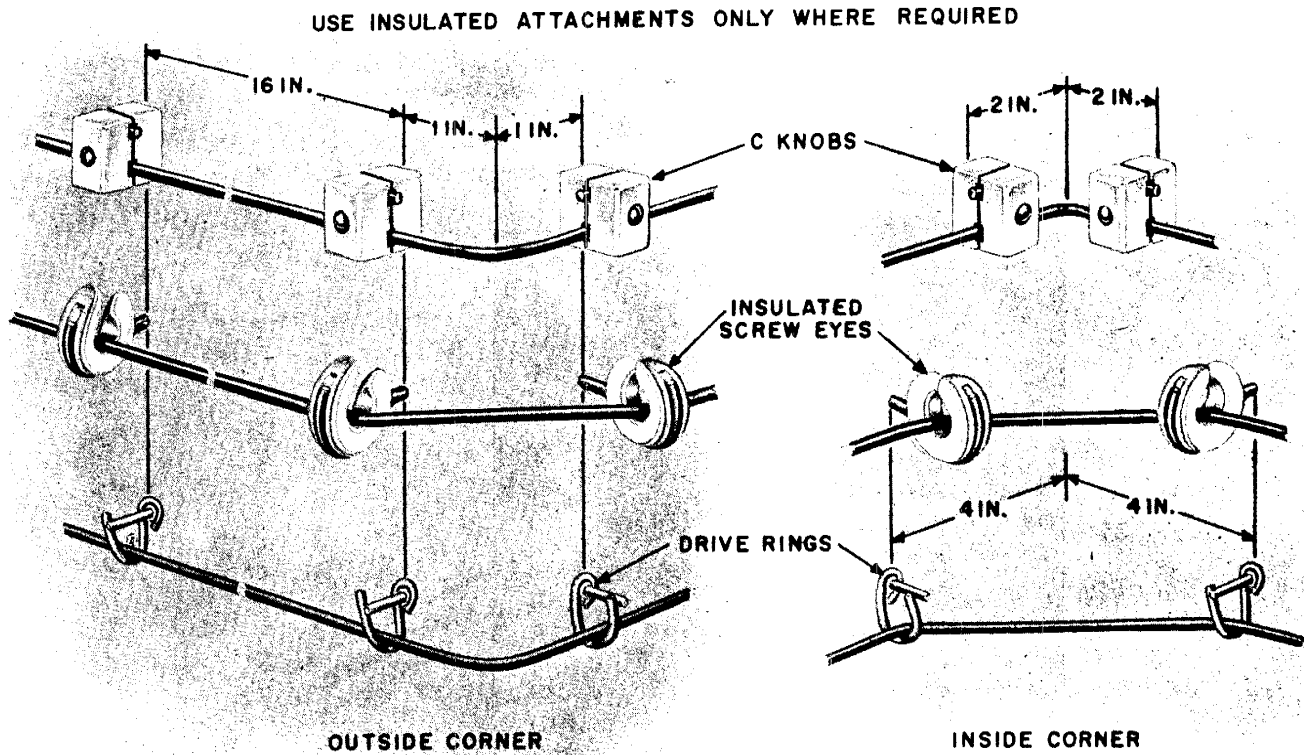

Fig. 5 — Attachments Inside of Building
**6.03** Space attachments 16 inches apart on runs between the point of entrance and the protector or connecting block. Spacing will vary at corners with type of attachment used. (See Fig. 5.)